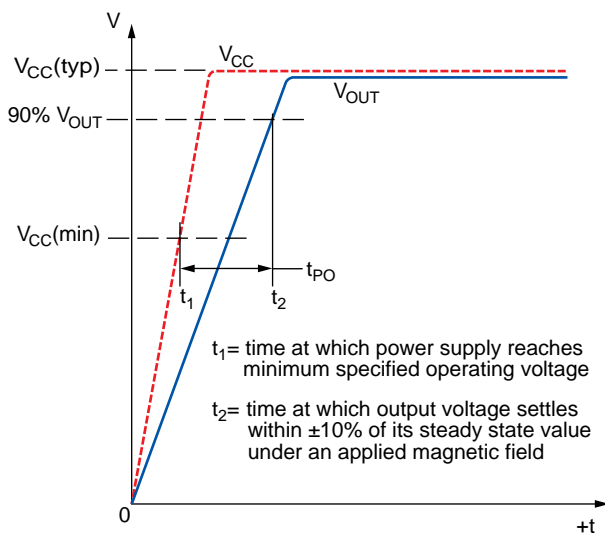

Figure 1. Definition of Power On Time,  $t_{PO}$
**Power On Time** When the supply is ramped to its operating voltage, the device output requires a finite time to react to an input magnetic field. Power On Time,  $t_{PO}$ , is defined as the time it takes for the output voltage to begin responding to an applied magnetic field after the power supply has reached its minimum specified operating voltage,  $V_{CC}(\text{min})$ , as shown in figure 1.